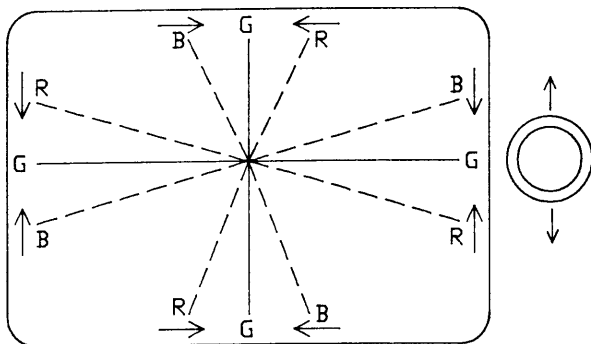
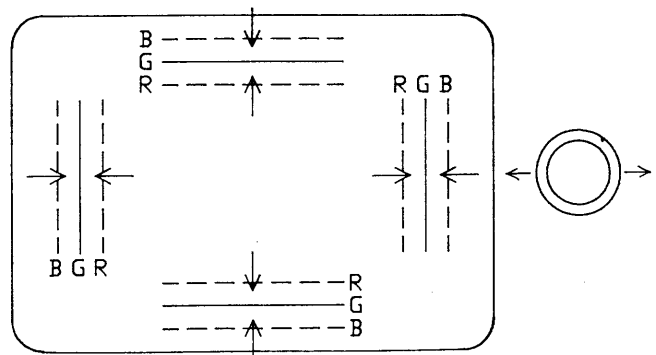

FIG 5
FIG 6
2. Tilt front of the deflection yoke up or down to obtain best convergence at the edge of the screen (Fig. 5). Place a wedge at the uppermost position (D). Do not remove the adhesive backing paper from the wedge.
3. Place the other wedge at the bottom position (B) removing the backing paper to stick.
4. Tilt front of the yoke right or left to obtain best convergence of parallel lines. (Fig. 6.)
Move the yoke in the horizontal or vertical plane to converge the red/green/blue lines at the edges of the screen. (Figs. 5 & 6.)